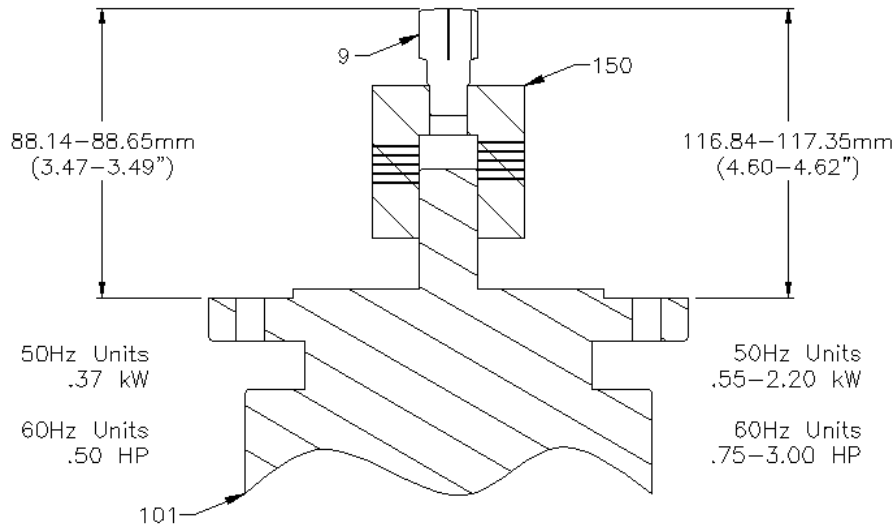

FIGURE 11 – SUN GEAR PLACEMENT
- a. Install the ring gear retaining pins (5).
- b. Install the ring gear (2) in the bearing housing (36).
- c. Install the retaining ring (7) in the groove above the ring gear.
- d. **PACK THE GEAR CARRIER (1) WITH GREASE** and rotate the gears several times to distribute the grease to the needle bearings (13). Refer to Section 7 of these instructions for lubricant recommendations.
- e. 50Hz Units, .37-1.50 kW and 60Hz Units .50-2.00 HP: Align the flats on the inside of the gear carrier (1) with the flats on the quill shaft (35).
- f. 50Hz Units, 2.20kW and 60Hz Units 3.00 HP: Install the key (27) in the quill shaft (35). Align the keyway in the gear carrier (1) with the keyway on the quill shaft (35).
- a. Assemble the sun gear (9), the drive coupling (150) and key (Item 107 – On all models except: 50Hz .37kW and 60Hz .50 HP sizes) until the sun gear shoulders against the drive coupling. Tighten the set screws.
- b. Set the elevation of the sun gear to the dimension shown in Figure 11, and tighten the remaining set screws.